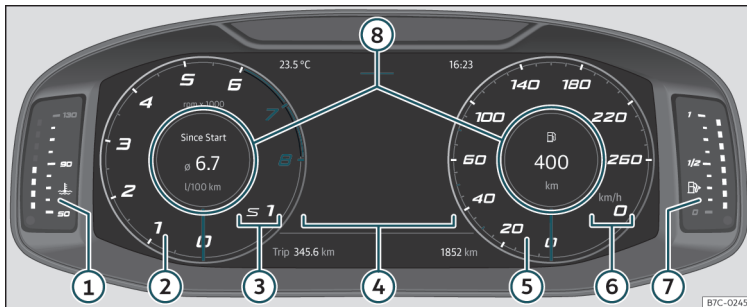

Fig. 57 Digital Cockpit on the instrument panel (classic view).
In the **Classic** and **Navigation** views it is possible to customise the information displayed under **Information profiles**»» **Fig. 57 ⑧**.
»» **Fig. 57.**